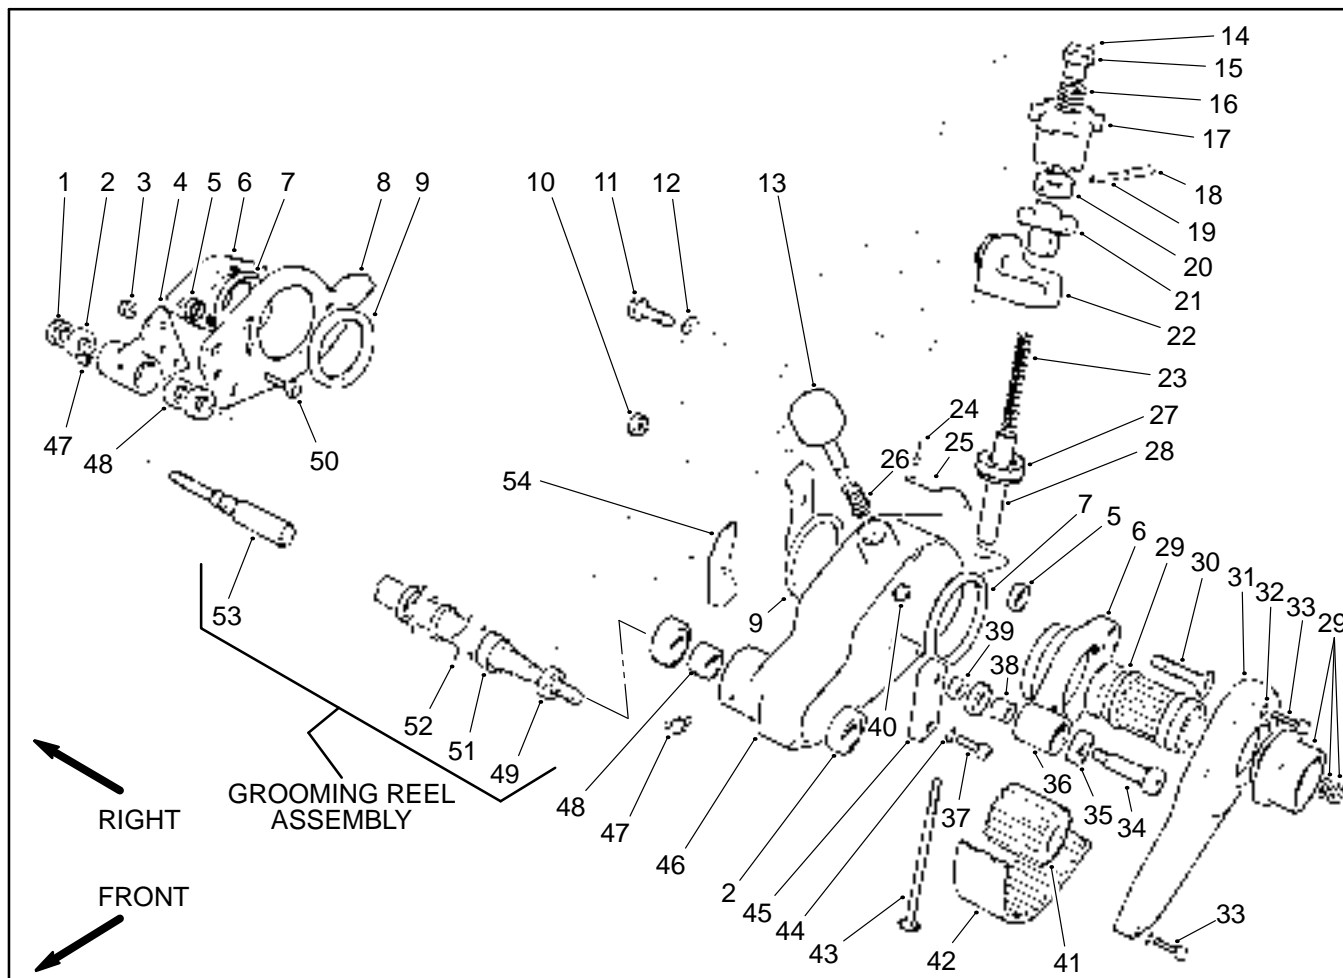
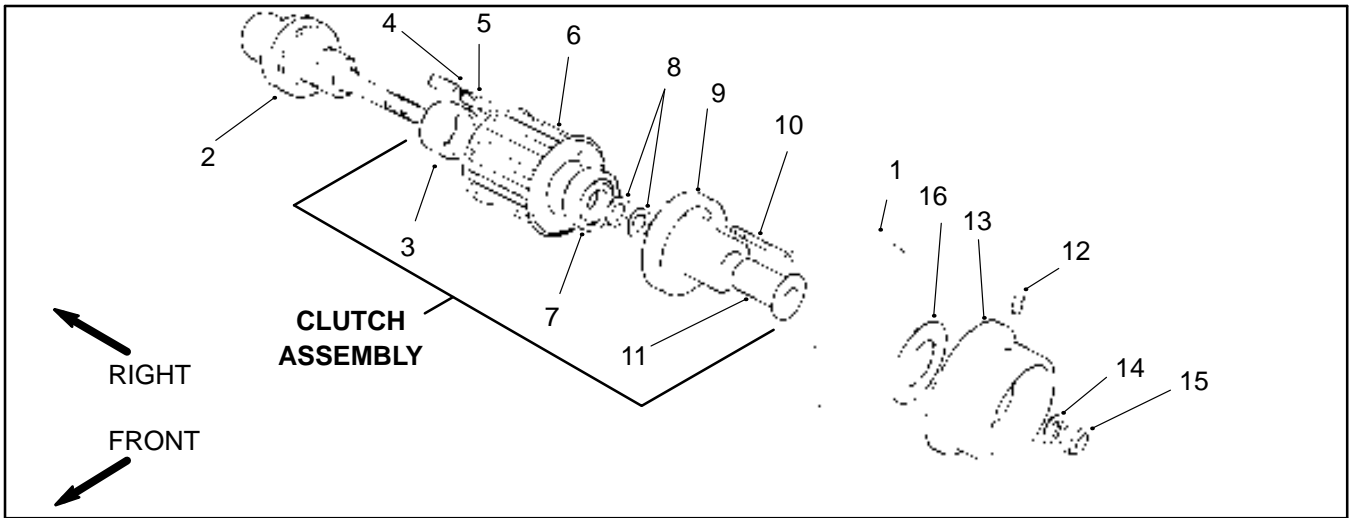

Figure 17
Figure 18
6. From the right side of the mower, remove the following (Fig. 17):
- A. Remove lock nut (1) securing the shaft (53) to the bearing housing (4).
- C. Remove cap screw (11) and belleville washer (12) (inside of frame) securing mounting block (22) to the mower frame (Fig. 17).
8. Loosen both set screws on the clutch knob. Remove the clutch knob and the poly washer behind it from the clutch assembly (Fig. 18).
9. Remove the three socket head cap screws (33) and lock washers (32). Remove belt cover (31) from the belt drive housing (46) (Fig. 17).
10. In the belt drive housing (46), disassemble the following parts (Fig. 17):
- A. Loosen socket head cap screw (37) and idler pulley (36), then remove drive belt (42) from the driven pulley (41).
**Note:** The driven pulley (42) has **left handed** threads.
B. Use an allen wrench to remove driven pulley from the shaft (53).
11. Remove lock nut and flat washer from the shaft of the clutch drive adapter. Pull clutch assembly off the shaft of the clutch drive adapter (Fig. 18).